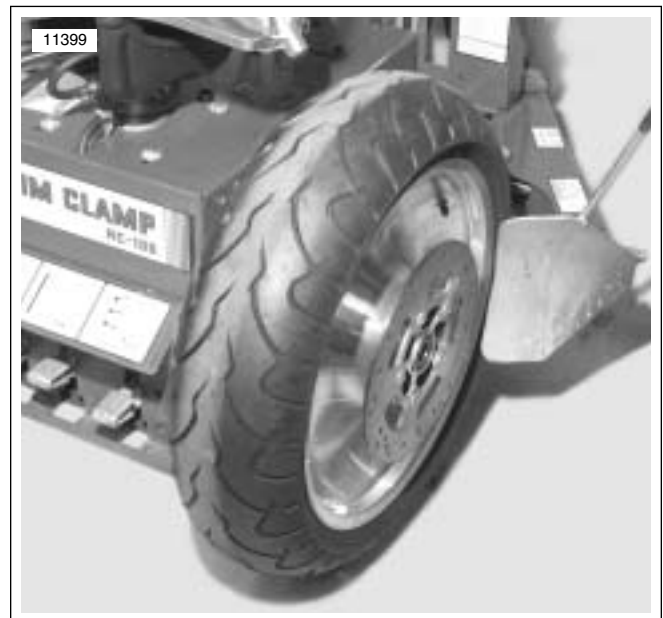

Figure 2-92. Pneumatic Bead Breaker
3. See Figure 2-92. Use a pneumatic bead breaker to loosen bead. Rotate wheel and apply bead breaker at several points along circumference of the rim until entire bead drops into rim well.